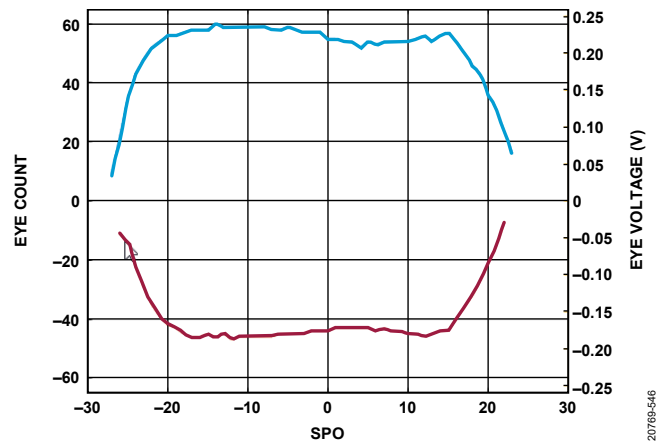

Figure 149. Example Eye Diagram Created from Half Rate Eye Scan Data
After running the horizontal and vertical eye scans, use the data recorded in Step 5 in the vertical eye scan procedure to construct the eye upper outline (see the blue curve in Figure 149) Use the data recorded in step 11 in the same procedure to construct the eye lower outline (see the orange curve in Figure 149). In half rate mode, each SPO count is 1/64 of the lane rate unit interval (UI). To convert the SPO counts, multiply the SPO counts by 1/64th of the UI. To convert the comparator counts to volts, multiply the counts by +4 mV or -4mV depending on the comparator voltage sign used.